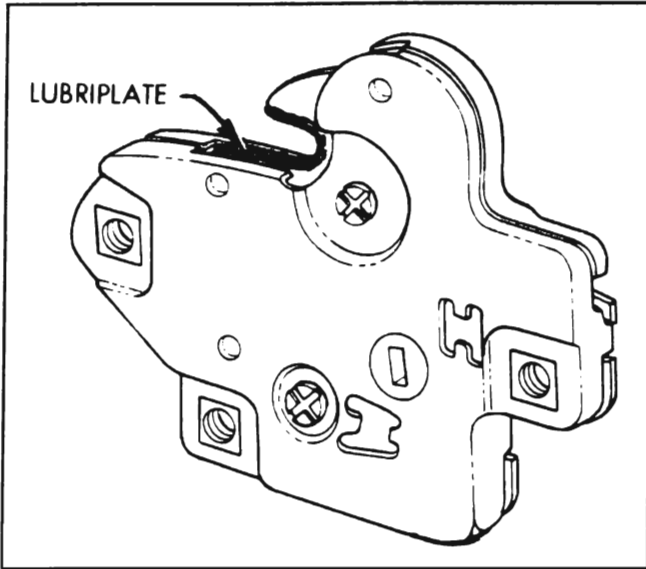

Figure 1-17—Lubrication of Rear Compartment Lid Lock Bolt
17. Rear Compartment Lid Lock Bolt. Wipe off dirt and apply lubriplate or equivalent sparingly to slot in catch. Wipe off excess. See Figure 1-17.